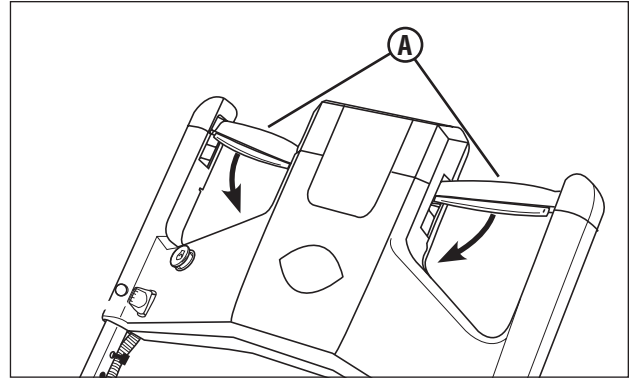

Figure 4: Propelling the mower
2. Begin slowly pushing the drive control **(A, Figure 4)** forward to propel the mower. Forward speed can be increased by pushing the drive control further forward.